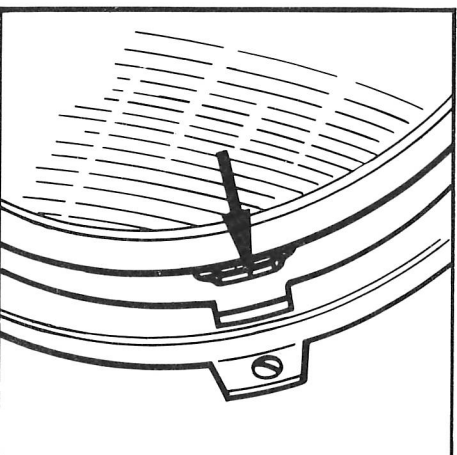

Fig. 33 Location of Headlamp Lugs.
- Reposition the lamp back into the headlight shell. Ensure the three outside lugs on the rear of the reflector seat correctly. Fig. 33. These make sure the light is upright. Replace headlamp retaining rim and secure with the screws 1, 2 & 3. Replace headlamp rim and secure with screw at the bottom.